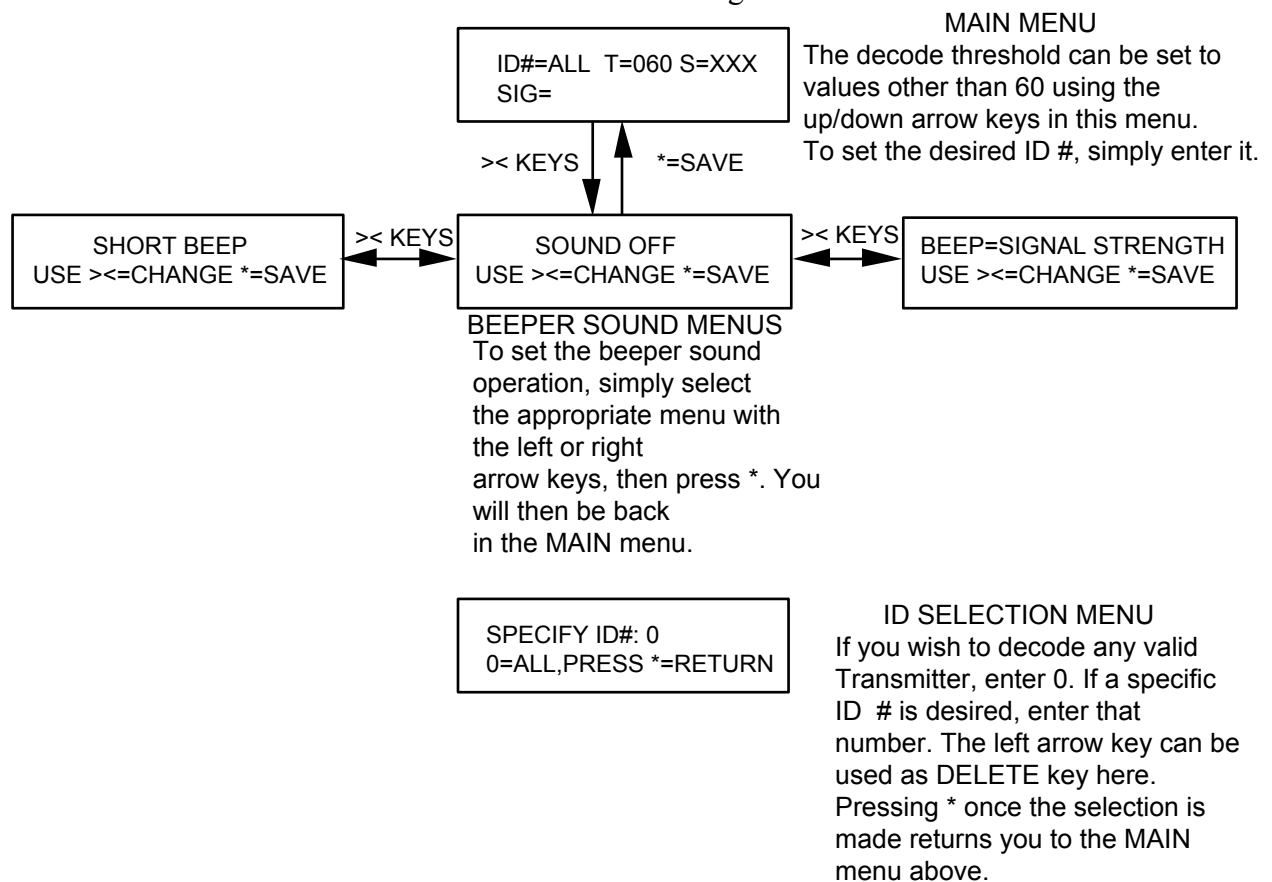

Figure 1. Locator Menus
2.1 The various Locator User menus are shown in Figure 1.